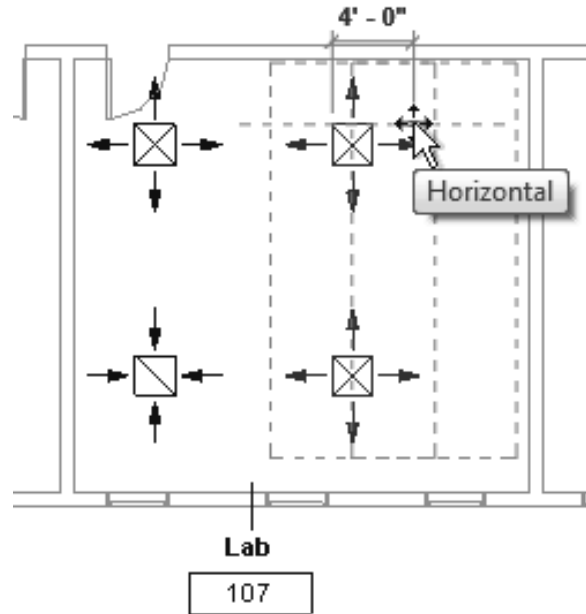

Figure 2-61
11. Select a base point on one of the air terminals and then use temporary dimensions to move the air terminals **4'-0"**, as shown in Figure 2-61.